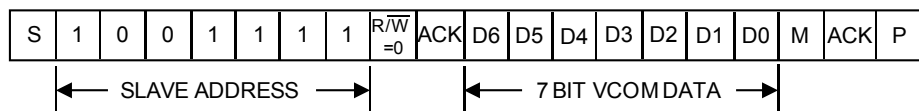

Figure 8. Write Operation to OTP or DAC Register
A write to the G1626 consists of transmitting a START condition, the slave address with the R/W bit set to 0, 7-bit data, M bit, and a STOP condition. Figure 8 illustrates the proper frame format for writing 7 bits of data to the G1626. The slave address with the R/W bit set to 0 indicates that the master intends to write data to the G1626. The G1626 acknowledges receipt of the address byte during the master-generated ninth SCL pulse. The second byte sent to the G1626 contains the 7-bit data that is written to the DAC latch or OTP. The M bit after the bit B0 identifies register to be written to, as shown in Table 2. When M = 0, the OTP is written to, and when M = 1, the DAC register is written to. An acknowledge pulse from the G1626 signals receipt of the VOUT data byte. The master signals the end of transmission by issuing a STOP (P) condition.